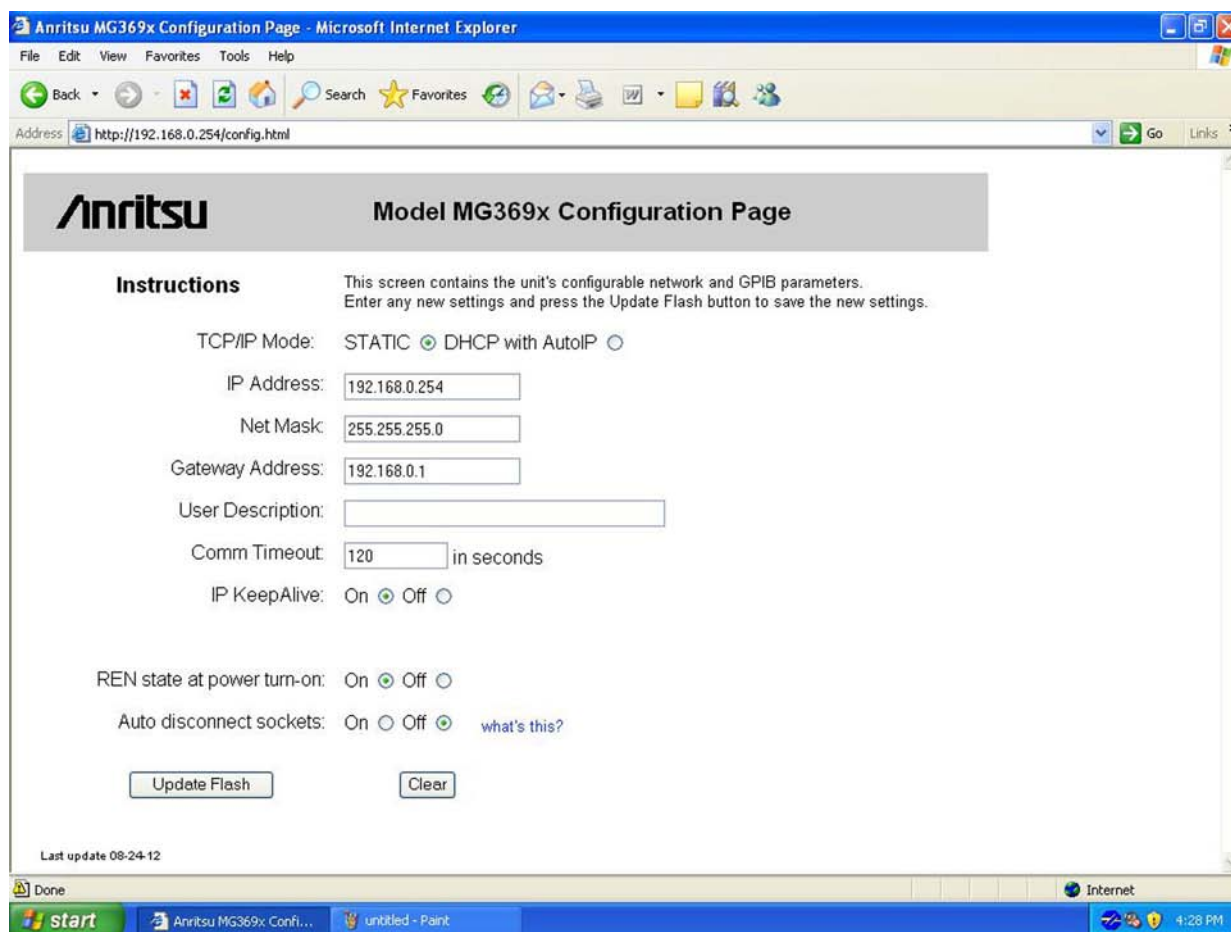

Figure 2-9. MG369xC Ethernet Device Configuration Page - Static TCP/IP Mode
4. Click the Go to Configuration Page button. The MG369x TCP/IP configuration page appears as shown in Figure 2-9 on page 2-13.